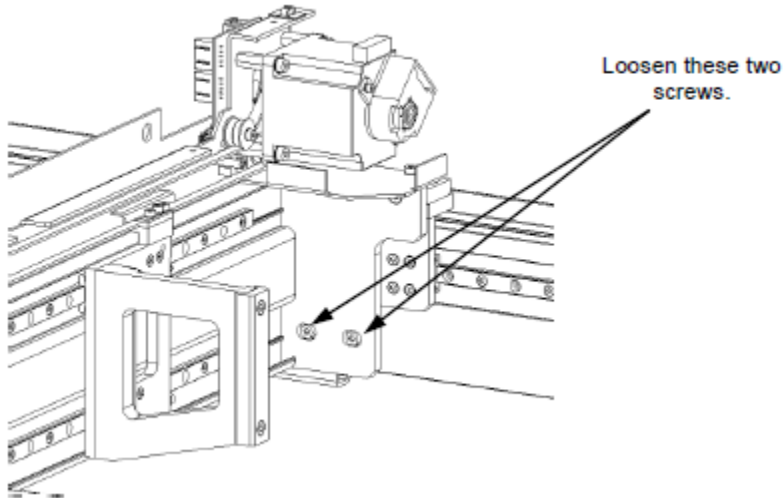

Figure X-27: Adjustment Screws - X Drive Plate
9. Loosen the two fine adjustment screws on the X Drive Plate as shown in Figure X-27. Hold the Transport Arm X Drive Timing Fixture Front (P24FIX014F) and Transport Arm X Drive Timing Fixture Back (P24FIX014B) into the inside corners of the X Drive so the machined lip of each fixture part is up against the relevant lips on the X Drive extrusions.